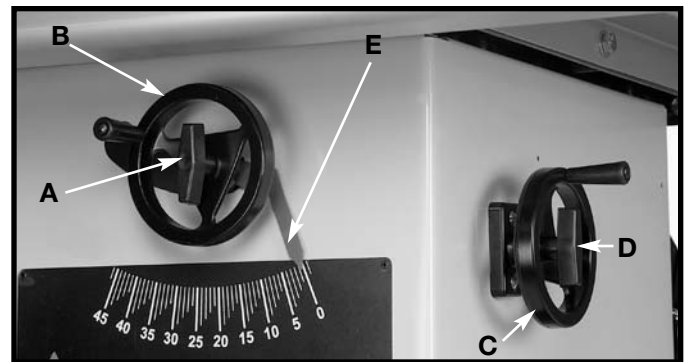

Fig. 59
To raise the saw blade, loosen lock knob (A) Fig. 59, and turn the blade raising handwheel (B) clockwise. When the blade is at the desired height, **tighten lock knob (A)**.
To lower the blade, loosen lock knob (A) Fig. 59, and turn the handwheel (B) counterclockwise. **NOTE:** One full turn of the handwheel will change blade height approximately 1/4".
To tilt the saw blade for bevel cutting, loosen lock knob (D) Fig. 59, and turn the tilting handwheel (C). When the desired blade angle as shown on scale and pointer (E), **tighten lock knob (D)**.